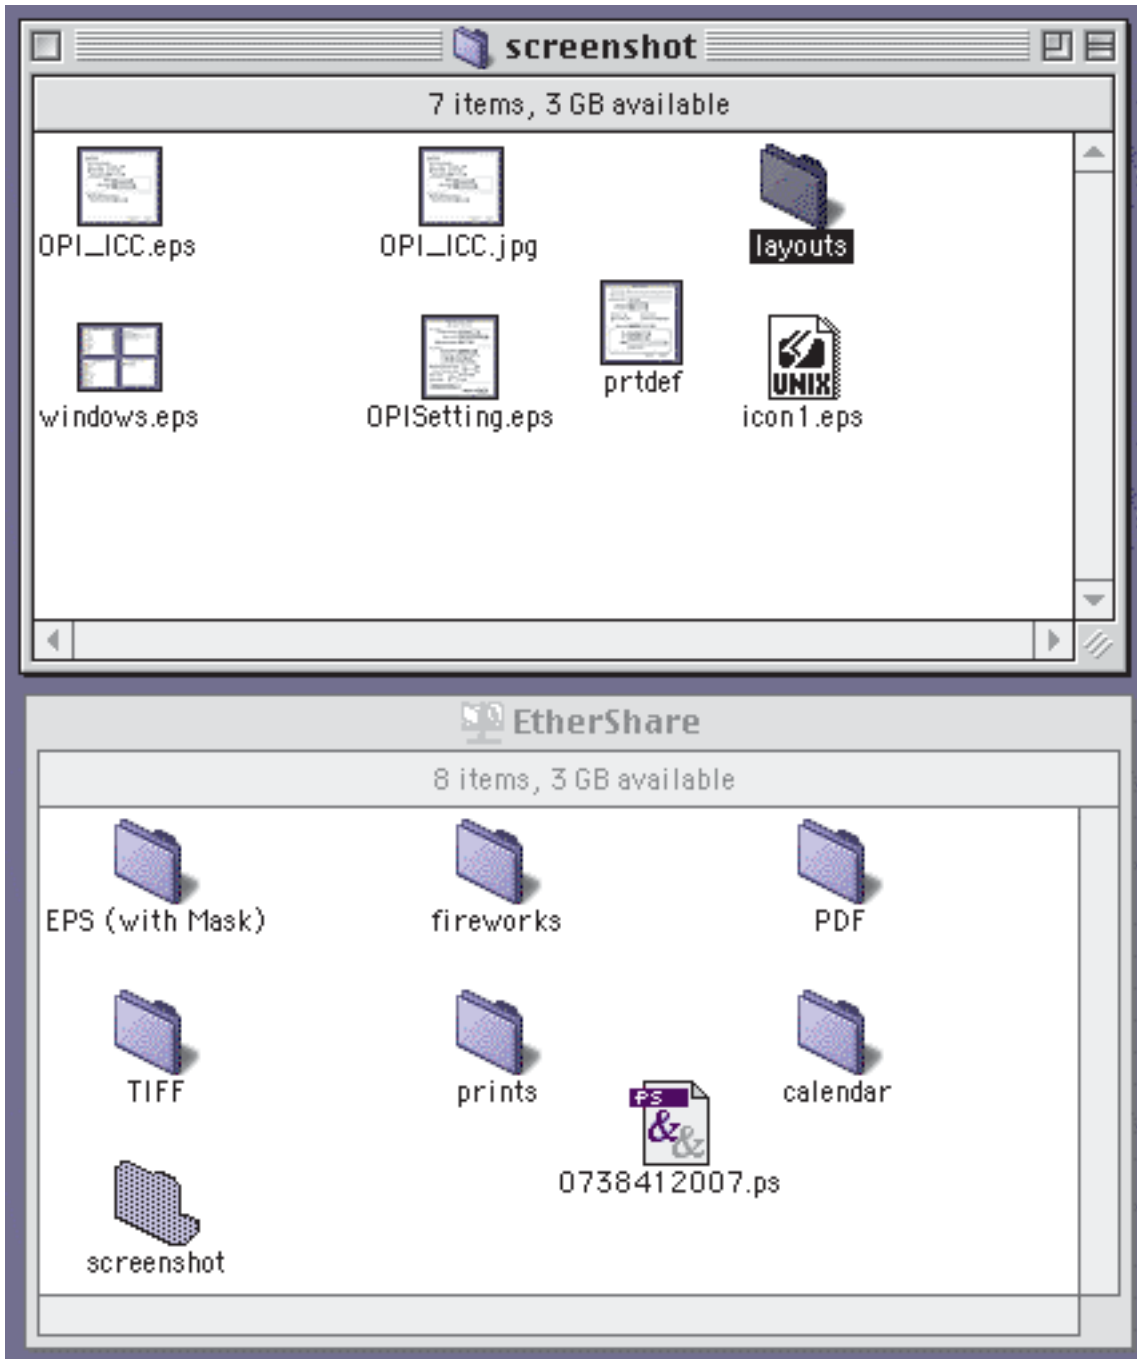

Figure 89. Sample shared directory and layout directory
4. Figure 89 on page 376 shows both the shared directory and the associated layout directory, where the OPI server will put a low resolution image for each image you place in the main shared folder.